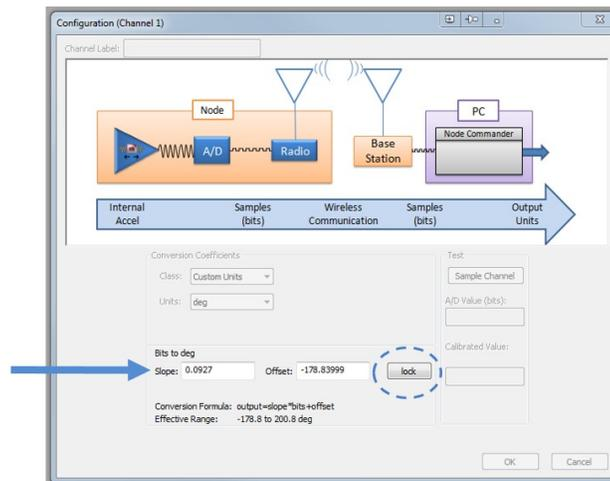

Figure 4 - Enter New Values
- Enter the new calibration values:** Use the Modify button to allow entering of the new values in the channel configuration window. Select Lock when completed and exit the menu (*Figure 4 - Enter New Values*).